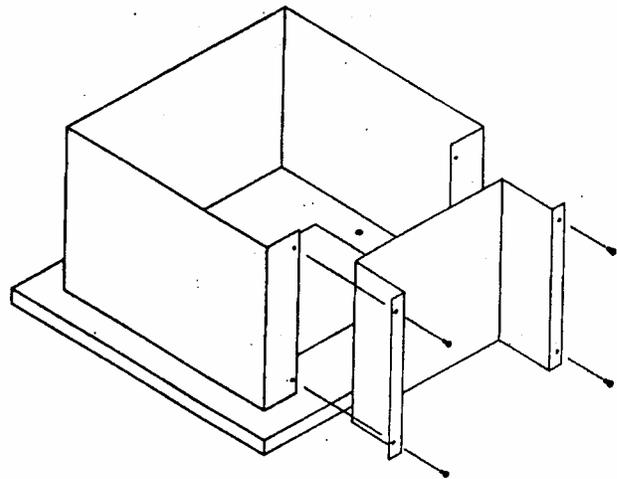

FIGURE 5
4. Install the pedestal cover by aligning the screw holes in the pedestal with the holes in the cover, making sure that the cover recesses into the pedestal (see figure 5).